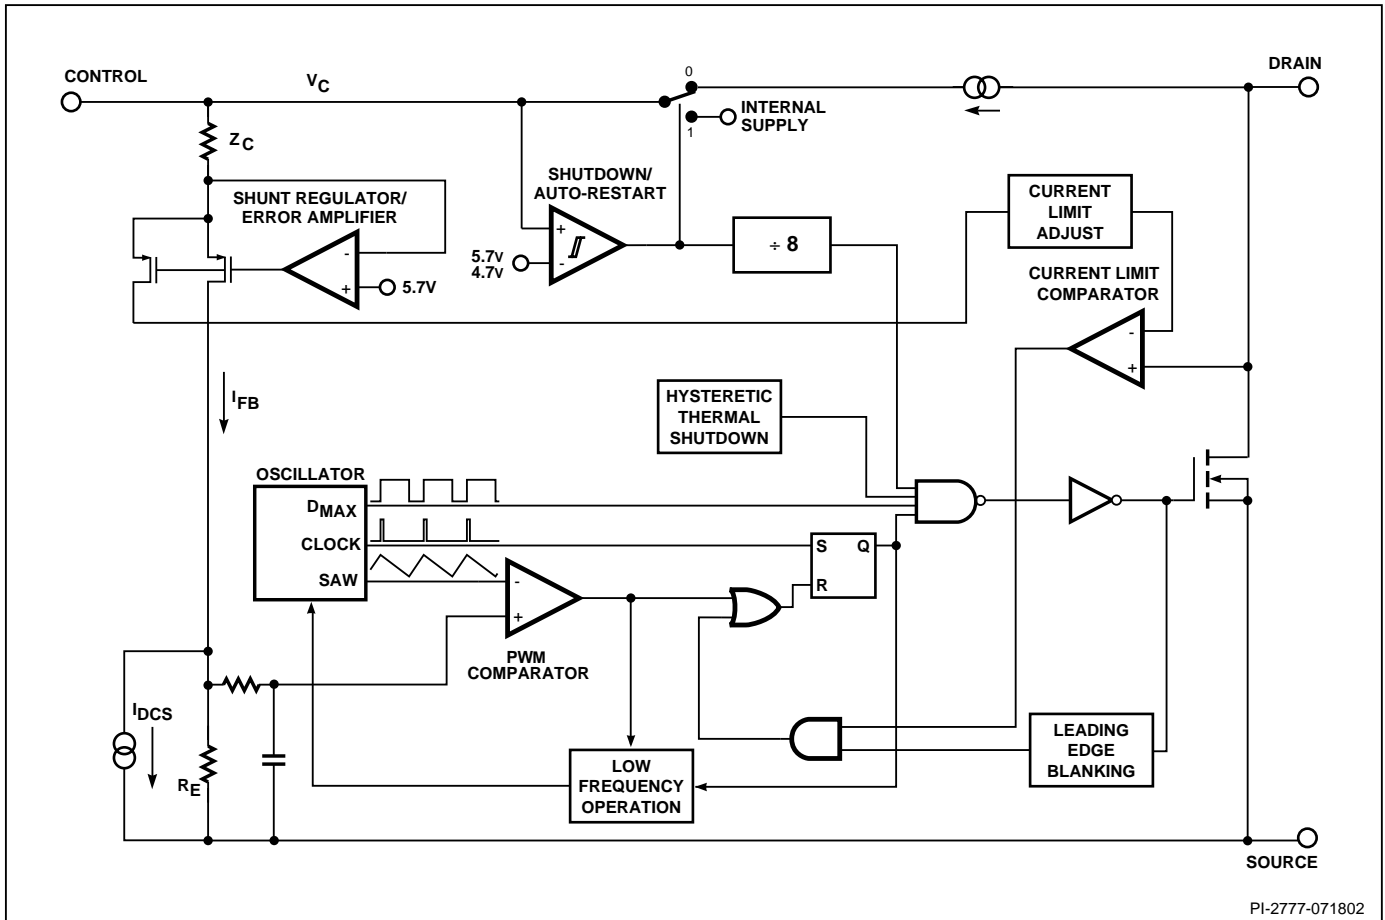
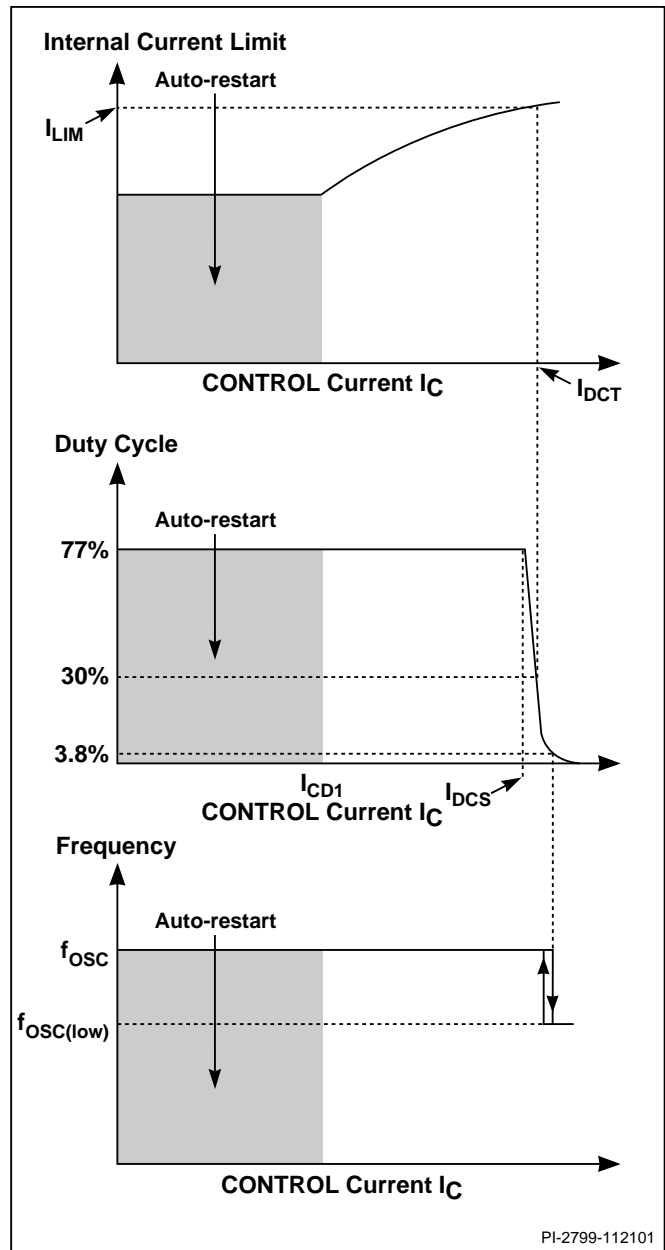
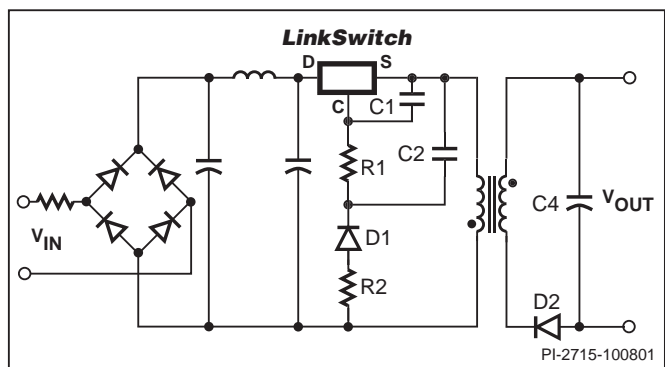
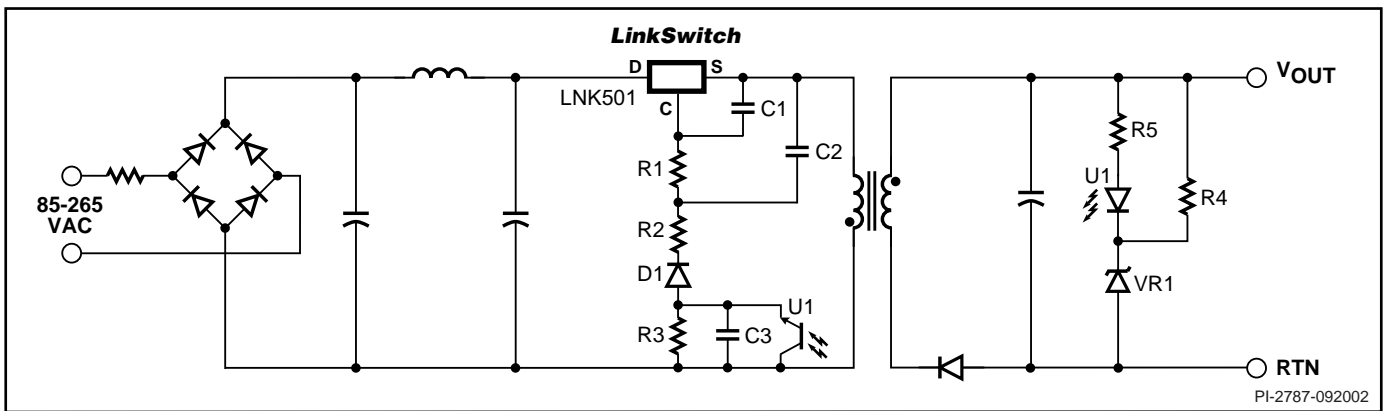

Figure 2. Block Diagram.
Figure 4. CONTROL Characteristics.
Figure 5. Power Supply Outline Schematic.
Figure 6. Power Supply Outline Schematic with Optocoupler Feedback.
The duty cycle, current limit and operating frequency relationships with CONTROL pin current are shown in Figure 4. Figure 5 shows a typical power supply outline schematic which is used below to describe the *LinkSwitch* operation.
During power up, as  $V_{IN}$  is first applied (Figure 5), the CONTROL pin capacitor C1 is charged through a switched high voltage current source connected internally between the DRAIN and CONTROL pins (see Figure 2). When the CONTROL pin voltage reaches approximately 5.7 V relative to the SOURCE pin, the high voltage current source is turned off, the internal control circuitry is activated and the high voltage internal MOSFET starts to switch. At this point, the charge stored on C1 is used to supply the internal consumption of the chip.
As the output voltage, and therefore the reflected voltage across the primary transformer winding ramp up, the feedback CONTROL current  $I_C$  increases. As shown in Figure 4, the internal current limit increases with  $I_C$  and reaches  $I_{LIM}$  when  $I_C$  is equal to  $I_{DCT}$ . The internal current limit vs.  $I_C$  characteristic is designed to provide an approximately constant power supply output current as the power supply output voltage rises.
When  $I_C$  exceeds  $I_{DCS}$ , typically 2 mA (Figure 4), the maximum duty cycle is reduced. At a value of  $I_C$  that depends on power supply input voltage, the duty cycle control limits *LinkSwitch* peak current below the internal current limit value. At this point the power supply transitions from CC to CV operation. With minimum input voltage in a typical universal input design, this transition occurs at approximately 30% duty cycle. R1 (Figure 5) is therefore initially selected to conduct a value of  $I_C$  approximately equal to  $I_{DCT}$  when  $V_{OUT}$  is at the desired value at the minimum power supply input voltage. The final choice of R1 is made when the rest of the circuit design is complete. When the duty cycle drops below approximately 4%, the frequency is reduced, which reduces energy consumption under light load conditions.
Figure 6 shows a typical power supply outline schematic using *LinkSwitch* with optocoupler feedback to improve output voltage regulation. On the primary side, the schematic differs from
Figure 5 by the addition of R3, C3 and optocoupler U1. R3 forms a potential divider with R1 to limit the U1 collector emitter voltage.
The feedback configuration in Figure 6 is simply a resistive divider made up of R1 and R3 with D1, R2, C1 and C2 rectifying, filtering and smoothing the primary winding voltage signal. The optocoupler therefore effectively adjusts the resistor divider ratio to control the DC voltage across R1 and therefore, the feedback current received by the *LinkSwitch* CONTROL pin.
When the power supply operates in the constant current (CC) region, for example when charging a battery, the output voltage is below the voltage feedback threshold defined by U1 and VR1 and the optocoupler is fully off. In this region, the circuit behaves exactly as previously described with reference to Figure 5 where the reflected voltage increases with increasing output voltage and the *LinkSwitch* internal current limit is adjusted to provide an approximate CC output characteristic. Note that for similar output characteristics in the CC region, the value of R1 in Figure 5 will be equal to the value of R1+R3 in Figure 6.
When the output reaches the voltage feedback threshold set by U1 and VR1, the optocoupler turns on. Any further increase in the power supply output voltage results in the U1 transistor current increasing, which increases the percentage of the reflected voltage appearing across R1. The resulting increase in the *LinkSwitch* CONTROL current reduces the duty cycle according to Figure 4 and therefore, maintains the output voltage regulation.
transistor voltage and dissipation ratings and should be fully tested before finalizing a design. The values of C2 and C3 are less important other than to make sure they are large enough to have very little influence on the impedance of the voltage division circuit set up by R1, R3 and U1 at the switching frequency. Normally, the values of C2 and C3 in Figure 6 are chosen equal to the value of C2 in Figure 5, though the voltage rating may be reduced depending on the relative values of R1 and R2 discussed above. See Applications section for typical values of components.
The output voltage load variation can be improved to be  $\pm 5\%$  across the whole load range by adding an optocoupler and secondary reference (Figure 6). The secondary reference is designed to only provide feedback above the normal peak power point voltage to maintain the correct constant current characteristic.
The schematic shown in Figure 5 outlines the key components needed for a *LinkSwitch* Supply.
As the SOURCE pins in a *LinkSwitch* supply are switching nodes, the copper area connected to SOURCE together with C1, C2 and R1 (Figure 5) should be minimized, within the thermal constraints of the design, to reduce EMI coupling.